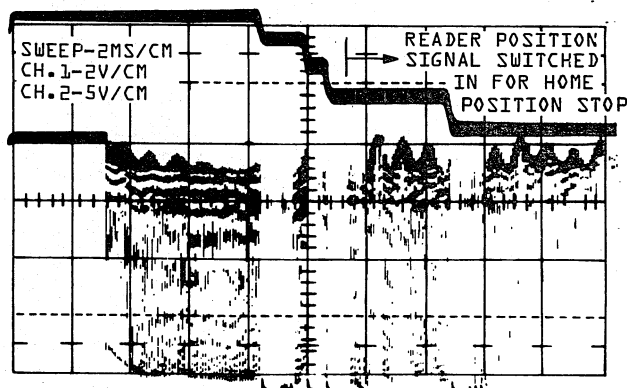

FIGURE 5-29. TYPICAL HORIZONTAL WAVEFORMS
31. Sync and monitor TP26 on 7PC3 (Horizontal Ramp). Refer to the oscilloscope waveforms shown in Figure 5-29.